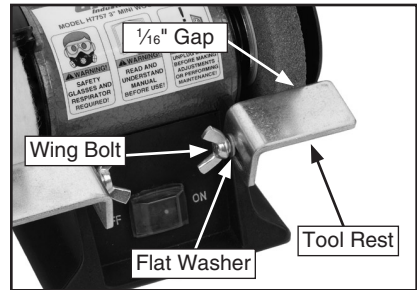

Figure 2. Tool Rest Installation.
- Adjust both tool rests approximately $\frac{1}{16}$ " from the grinding and buffing wheels and tighten the wing bolts. **Figure 2** shows the correct adjustment for the tool rest at the grinding wheel.